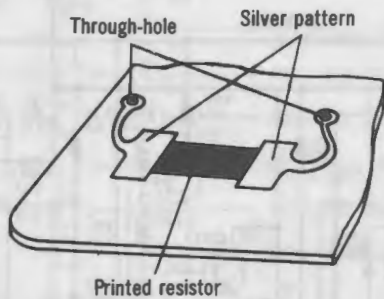

Fig. 1
<p>H Overall gain</p> <p>Condition:</p> <ul style="list-style-type: none"> • Record/playback mode • Normal tape mode • Input level controls ... MAX • Output level control ... MAX • Standard input level; MIC -72 \pm 4 dB LINE IN ... -24 \pm 4 dB <p>Equipment:</p> <ul style="list-style-type: none"> • VTVM • AF oscillator • ATT • Oscilloscope • Resistor (600Ω) • Test tape (reference blank tape) ... QZZCRA for Normal 	<p>1. Test equipment connection is shown in fig. 17.</p> <p>2. Place UNIT into Normal tape mode, and load the test tape (QZZCRA).</p> <p>3. Place UNIT into record mode.</p> <p>4. Supply 1 kHz signal (-24 dB) from AF oscillator, through ATT to LINE IN.</p> <p>5. Adjust ATT until monitor level at LINE OUT becomes 0.4 V.</p> <p>6. Playback recorded tape, and make sure the value at LINE OUT on VTVM becomes 0.4 V.</p> <p>7. If measured value is not 0.4 V, adjust VR5 (L-CH), VR6 (R-CH) (See fig. 1 on page 4).</p> <p>8. Repeat from step (2).</p> <div data-bbox="985 588 1356 819"> </div> <p style="text-align: center;">Fig. 17</p>
- The printed resistor is located on the printed circuit board as illustrated in Fig. 1.